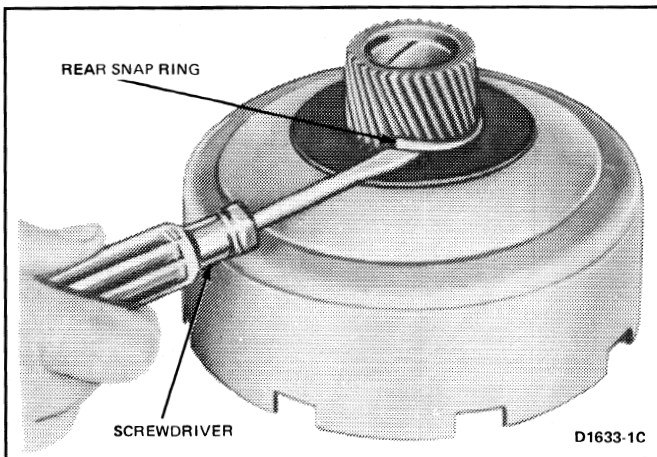

FIG. 54 Removing Sun Gear Snap Ring
1. Remove the rear snap ring from the sun gear as shown in Fig. 54.